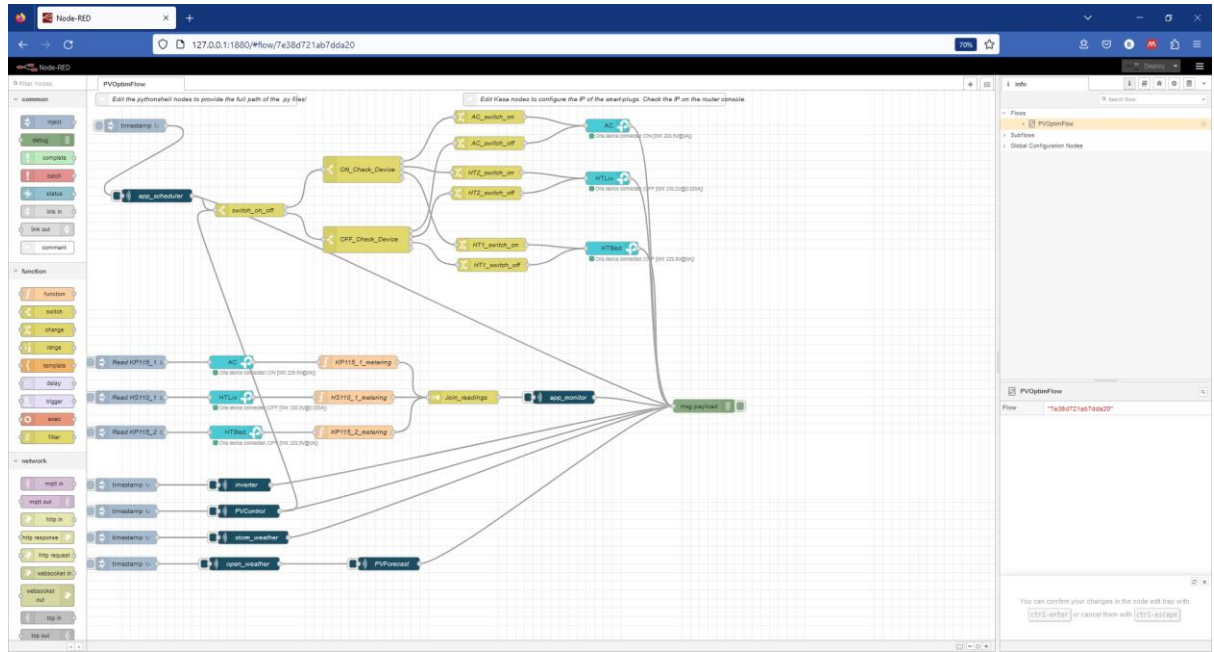

Figure 2 – PV-OPTIM orchestration flow in Node-RED
7. Import the orchestration flow of PV-OPTIM provided in the repository in file *PVOptimFlow.json*. Use *Import* option from the Node-RED menu on the right corner of the console, select the file and load it. As a result, the *PVOptimFlow* will be loaded into the console (figure 2):